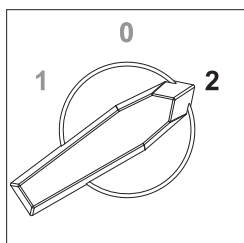

Figure 3-5. Flex Switch—Position 2
2. See Figure 3-5. Switch the flex switch (if equipped) to position 2.